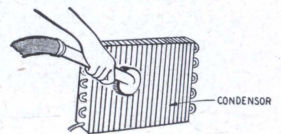
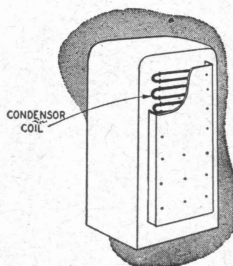
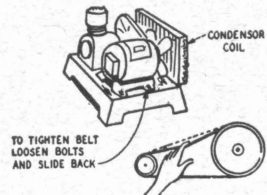
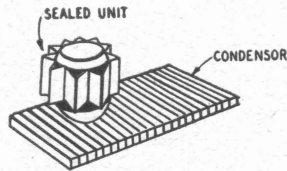

Fig. 40
Fig. 41
Fig. 46
Fig. 47
**Remedy:** Clean condenser once or twice a year with a long handled brush or vacuum cleaner attachment. Fig. 40. Condenser is usually located at the top, back (Fig. 41), or at the bottom (Fig. 46) of the refrigerator. If necessary, pull refrigerator out from wall.
*Remedy:* Tighten or replace. Fig. 46.
1. *Lubrication:* If your refrigerator is a belt-driven model similar to that shown in Fig. 46, oil it every two months with 6 to 10 drops of electric motor oil or motor oil of SAE No. 20 weight. Too much oil may damage the motor windings. Sealed units (with no oil cups) as shown in Fig. 47 require no oiling, as oil has been sealed in the unit at the factory.